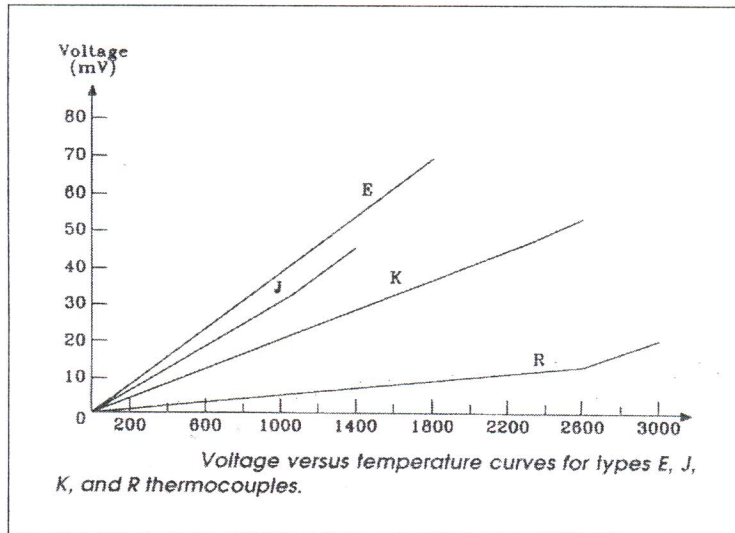

Figure 7: Voltage versus temperature curves for type E, J, K and R
- (c) **Figure 7** is a voltage versus temperature curves for type E, J, K and R thermocouples.
- ii. 'The system is to measure a 500°C material and to be used in low oxygen condition. The worker need to ensure that there is no sulfur exposed in the environment.' Based on the graph shown in **Figure 7** and the characteristic of each type, choose a suitable type of thermocouple for this application.